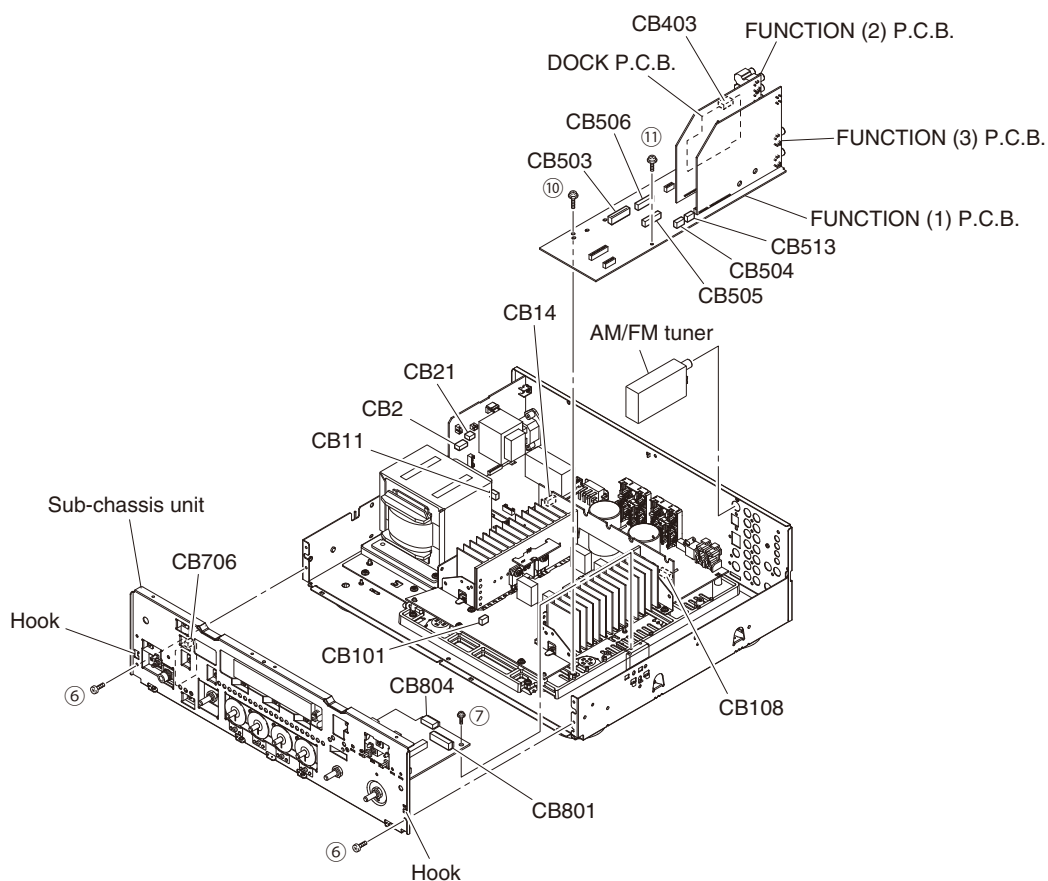

Fig. 2
- Remove 2 screws (⑥) and screw (⑦). (Fig. 2)
- Remove CB11, CB101, CB108, CB503-505, CB513, CB706, CB801 and CB804. (Fig. 2)
- Release 2 hooks and then remove the sub-chassis unit. (Fig. 2)
- Remove CB403. (Fig. 2)
- Remove the AM/FM tuner. (Fig. 2)
5. Removal of FUNCTION (1)-(3) and DOCK P.C.B.s
- Remove screw (⑩) and screw (⑪). (Fig. 2)
- Remove CB2, CB14, CB21 and CB506. (Fig. 2)
- Remove the FUNCTION (1)-(3) P.C.B.s and DOCK P.C.B. together. (Fig. 2)